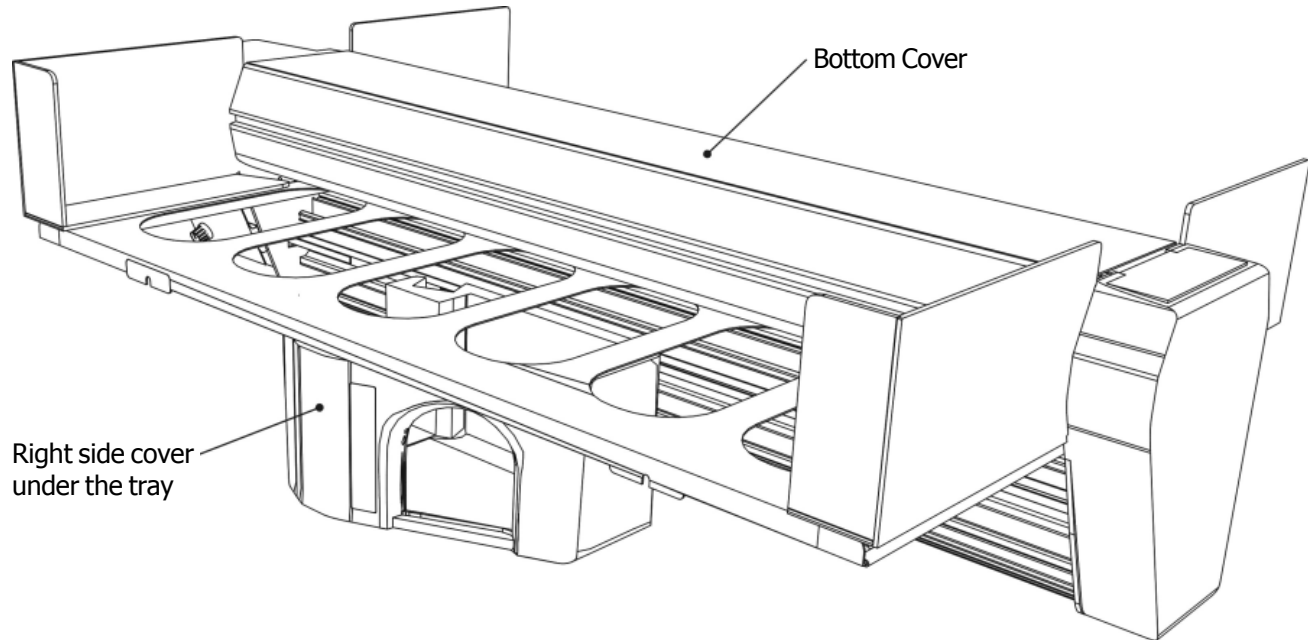

Fig. 5-5 Turn 300 over, and place right side cover under tray
4. Use your assistant to help you flip the 300 cutter over onto its top dust cover. Use the right side cover to place under the tray so it doesn't fall over while it's on its top. See figure 5-5
3. Disconnect the motor power, and motor encoder wires from the base of the motor. See *Fig. 5-5*